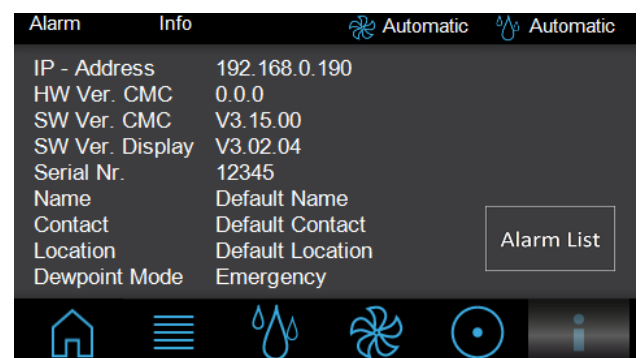

Fig. 92: "Info" screen
- Enter the serial number using the number pad keys. The serial number is displayed on the "Info" screen (fig. 92) under the "Serial No." entry.